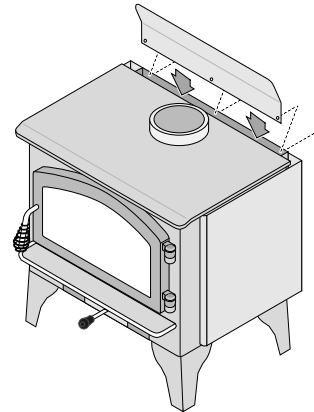

Figure 2
- Attach the convection air deflector (shipped inside the stove) using the three screws included in the owner's pack- see Figure 2.